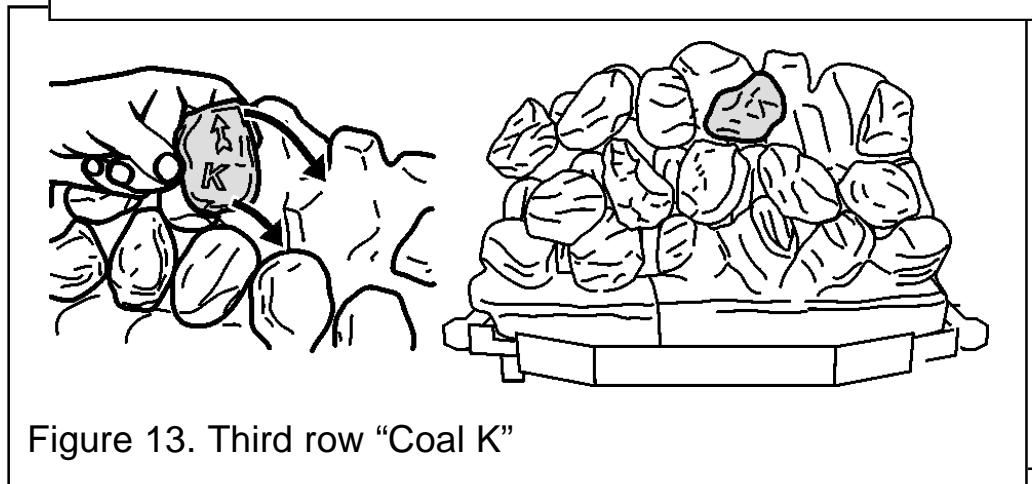

Figure 13. Third row "Coal K"
15. Hold coal 'K' upright with the arrow pointing to the top. Locate coal 'K' as shown in figure 13.